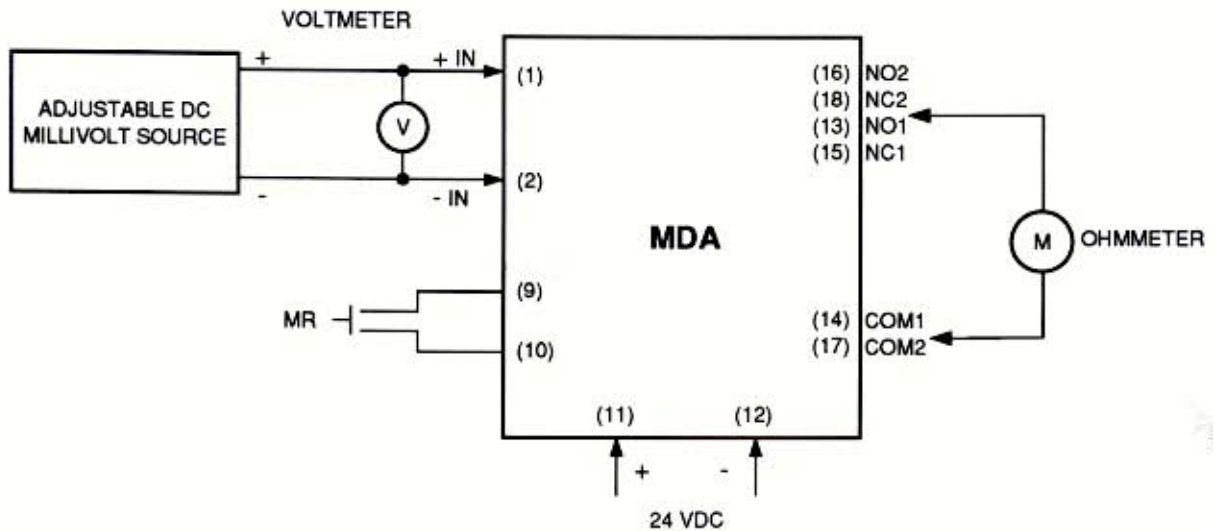
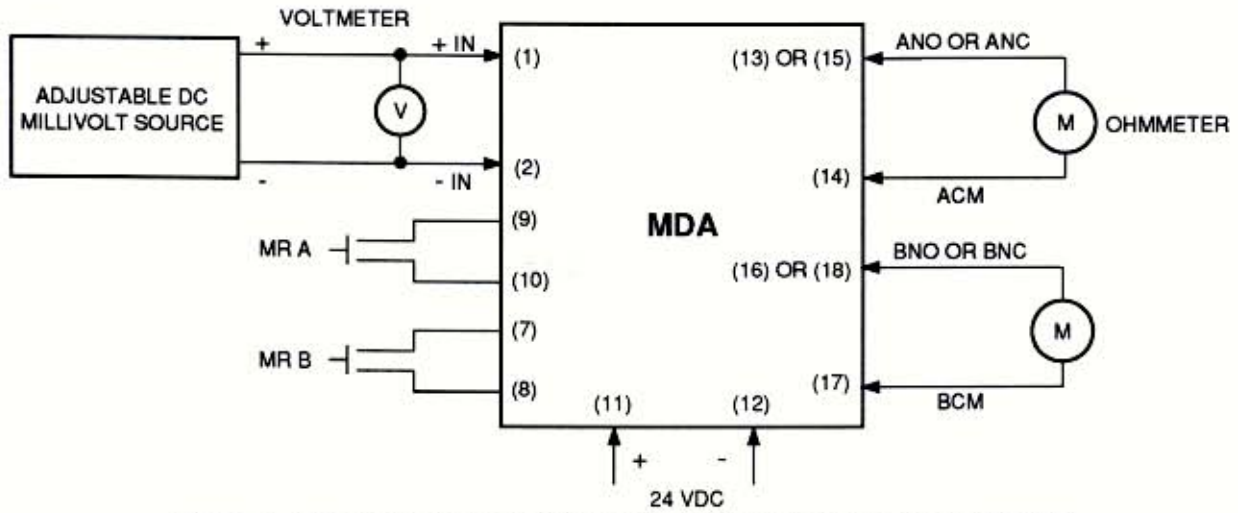

Figure 4. Calibration Setup for Single Alarm Units with Relay Outputs
Figure 6. Calibration Setup for Dual Alarm Units with Relay Outputs (SPDT)
Off-line calibration for all MDA units generally requires the same test equipment setup. Separate configurations are shown for clarity. The calibration setups for single alarm units are shown in figures 4 and 5. The calibration setups for dual alarm units are shown in figures 6 and 7.
2. Connect a signal source and a dc voltmeter to the input of the MDA. Connect an 18-30Vdc power source. See figures 4 through 7.